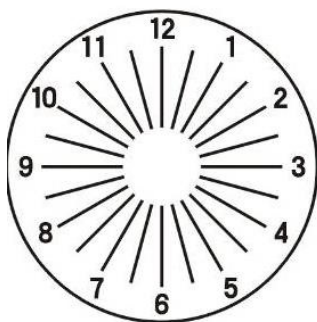

Fig.32
(4) Turn cylindrical lens knob ②⑦ to change C value, .00→.25→.50 so every line is seen equally. When it is turned to -0.50, the chart is as shown as Fig.32.
(5) Change S by 0.25D steps by turning weak spherical power dial ②③ so that the visual acuity becomes from 1.2 to 1.5. Record the changed value of the visual acuity.